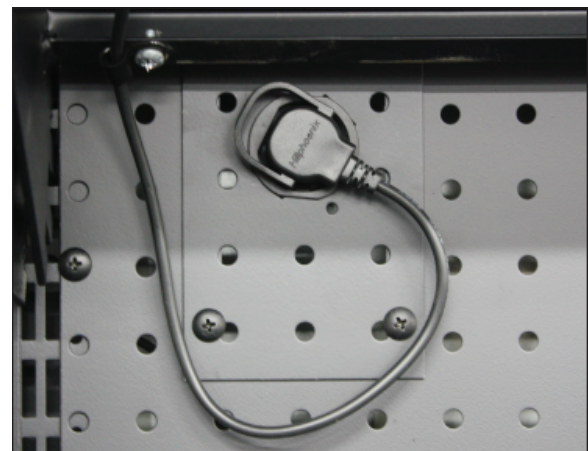

Fig. 12 LED light power cord
1. Unplug the luminaire (Fig. 12).